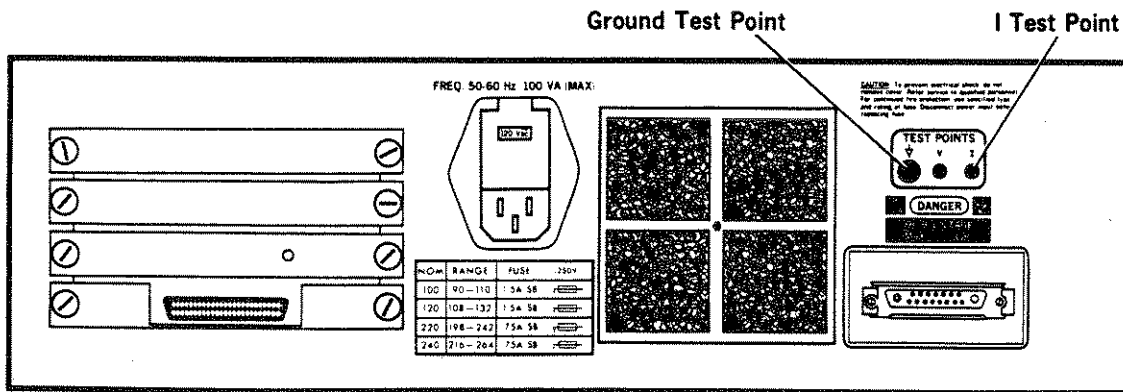

Figure 5-7. Test Point Locations
STEP 3. Connect the oscilloscope probe to the I test point accessed through the rear panel of the 5300. Connect the ground lead of the probe to the ground test point also on the rear panel. Refer to Figure 5-7.